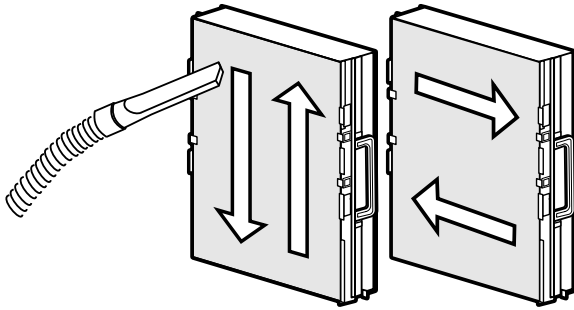

Figure 34 Vacuuming the Collection Cells
1. Using a vacuum hose, vacuum in even strokes across the entire COLLECTION CELL surface. Vacuum using even strokes in one direction, then repeat the process using even strokes in the opposite direction, as demonstrated in Figure 34.